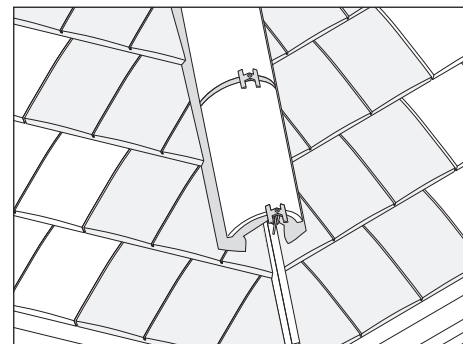

Fig. 26 – Typical bedded hip using third round ridge units as hip capping Tile and a half tiles shown shaded
- 3 Fix a hip iron at base of hip rafter and shape first hip tile at front to align with tiling at the eaves (Fig. 26).